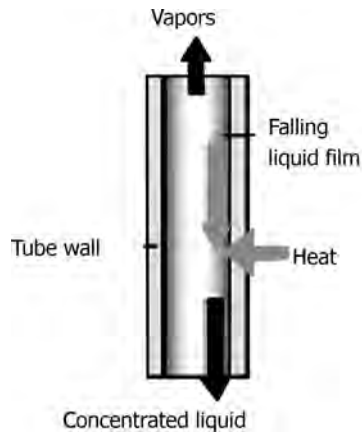

FIGURE 11.20 Tube showing falling liquid film.
- Tube showing falling liquid film is illustrated in Figure 11.20.